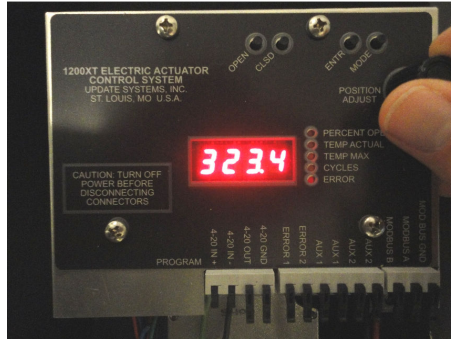

Figure 13
Step 3: If position is to be calibrated with the controller, follow this step; otherwise, skip to step 4.* Next, use the **POSITION ADJUST knob to place the valve at the desired open position. As the knob is turned, the unit will display the raw feedback from the shaft sensor in degrees (Figure 13).